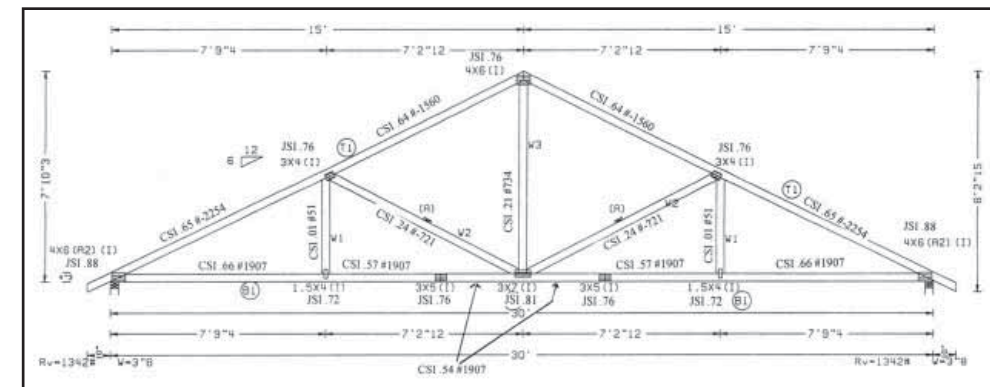

Figure 2. Design drawing for trusses to be tested.
**Step 1:** Use ten trusses (see figure 2) and test all of them to get precise load-deflection and lateral deformation load data.
**Step 4:** In Step 1 above we'll load each single truss shown in figure 2 in a series of load increments and measure the lateral forces in each web member under a series of prescribed web member lateral deformations.